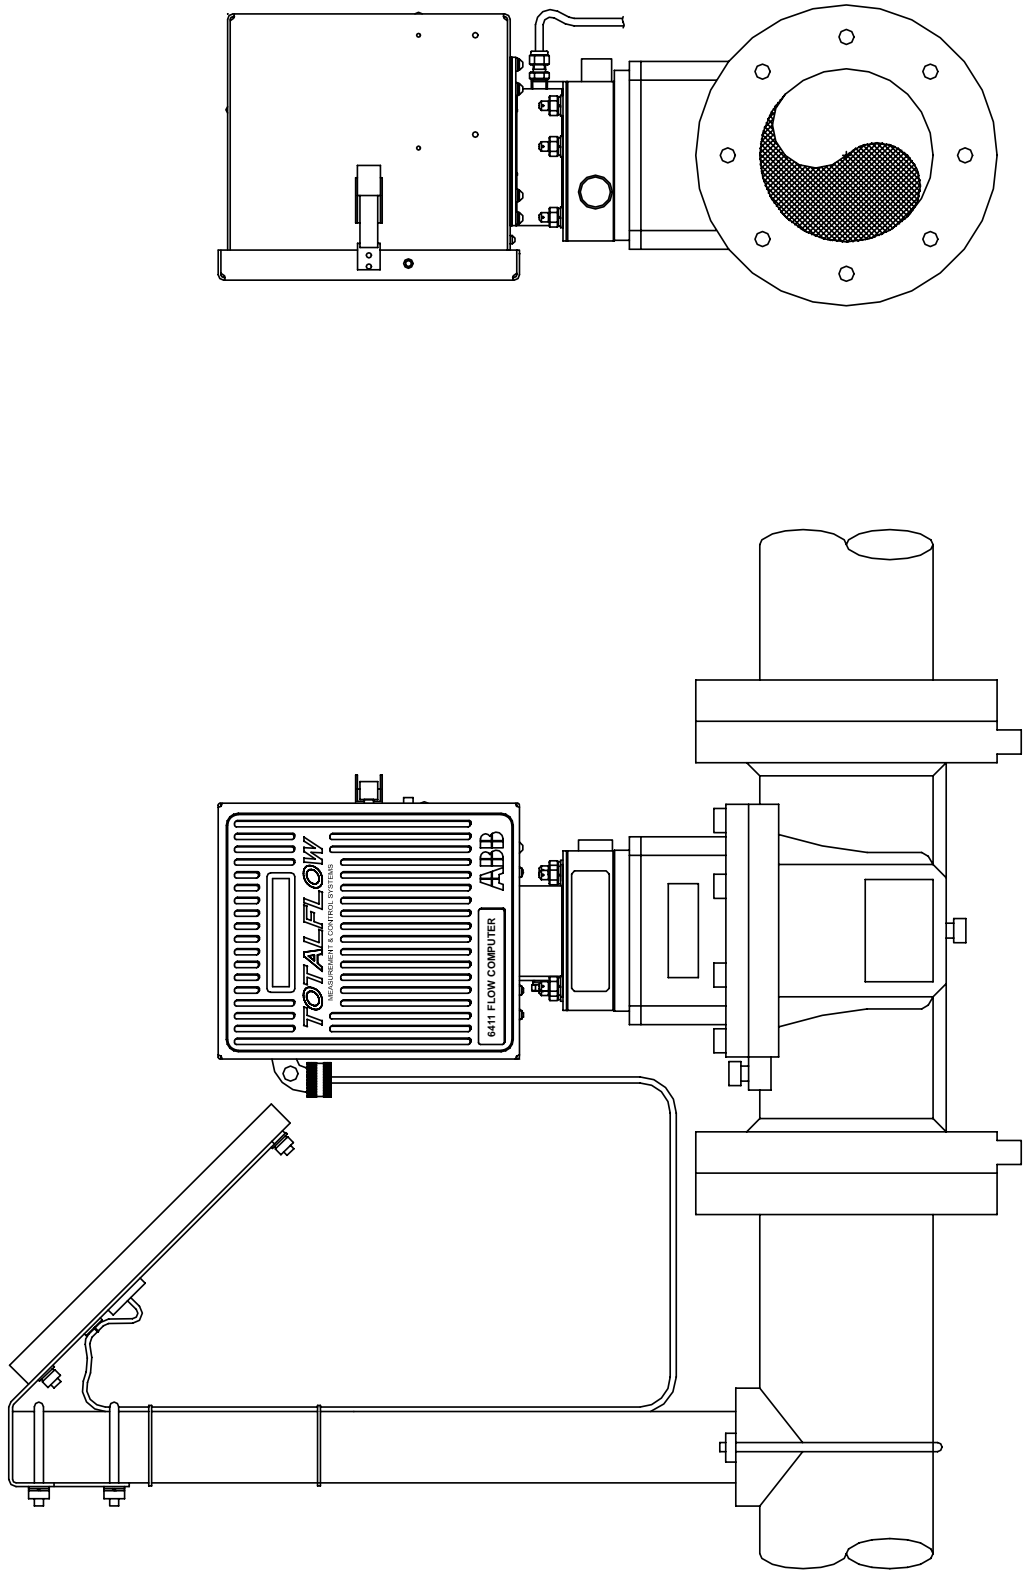

Figure 2-7. Model 6411, Direct Mount
If you are installing the FCU directly to a meter use this procedure. Before you begin, review the procedure and the Direct Mount Outline Drawings; see Figures 2-7 through 2-9.
1.	Referring to Figures 2-7 through 2-9 FCU Outline Drawings, attach the FCU to the meter. Before aligning with the meter, ensure that all seals are in place around the mounting hardware as per installation drawing # 2015374-AI.
3.	Refer to Figure 2-7, 2-8 or 2-9 and complete installation.